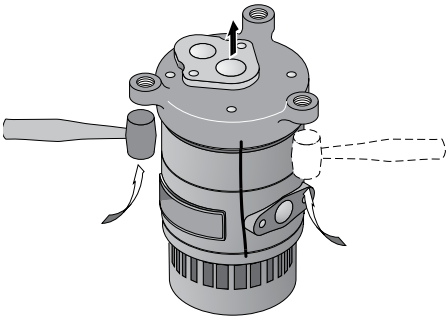

Figure 18
- Step 6. Turn the pump upside down on the bench and block it. Remove the four cap screws from the base. With a mallet, tap upward on the base to loosen it. Lift the base off of the intermediate volute (see Figure 18).